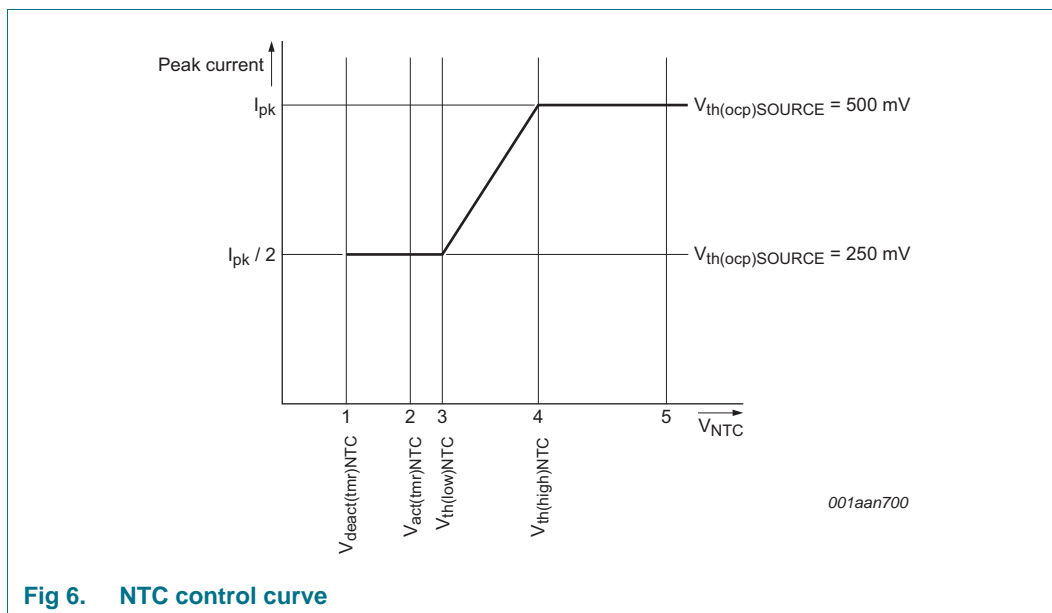

Fig 6. NTC control curve
The NTC pin can be used as a control method for LED thermal protection. Alternatively, the pin can be used as an input to disable/enable light output using a digital signal (PWM dimming). The pin has an internal current source that generates the current of $I_{offset(NTC)}$. An NTC resistor to monitor the LED temperature can be directly connected to the NTC pin. Depending on the resistance value and the corresponding voltage on the NTC pin, the converter reacts as shown in Figure 6.
When the voltage on the NTC pin exceeds $V_{th(high)NTC}$ (see Figure 6 (4)), the converter delivers nominal output current. When the voltage is lower than this level, the peak current is gradually reduced until $V_{th(low)NTC}$ is reached (see Figure 6 (3)). The peak current is now half the peak current of nominal operation. When $V_{act(tmr)NTC}$ is passed (see Figure 6 (2)) a timer starts to run to distinguish between the following situations:
- If the low-level $V_{deact(tmr)NTC}$ is not reached within time $t_{to(deact)NTC}$, (see Figure 6 (1)) LED overtemperature is detected. The IC stops switching and attempts to restart from the HV pin voltage. The converter restarts from an NTC protection shutdown when the voltage on the NTC pin exceeds $V_{th(high)NTC}$ (see Figure 6 (4)). It is assumed that the reduction in peak current does not result in a lower NTC temperature and LED OTP is activated.
- If the low-level $V_{deact(tmr)NTC}$ is reached within the time $t_{to(deact)NTC}$, (see Figure 6 (1)) it is assumed that the pin is pulled down externally. The restart function is not triggered. Instead, the output current is reduced to zero. PWM dimming can be implemented this way. The output current rises again when the voltage is higher than $V_{th(low)NTC}$.
The NTC pin can be used to make a soft start function. During switch-on, the level on the NTC pin is low. By connecting a capacitor (in parallel with the NTC resistor), a time constant can be defined. The time constant causes the level on the NTC pin to increase slowly. When passing level $V_{th(low)NTC}$ (see Figure 6 (3)), the convertor starts with half of the maximum current. The output current slowly increases to maximum when $V_{th(high)NTC}$ (see Figure 6 (4)) is reached.